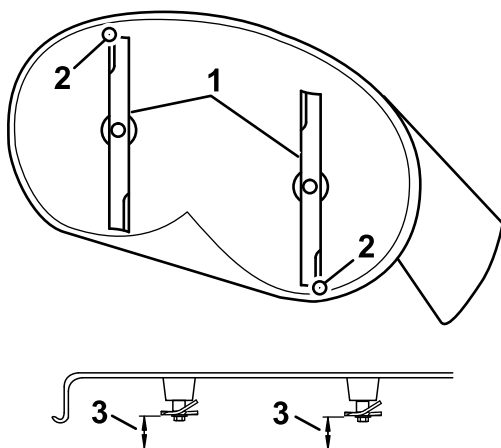

Figure 67
4. Carefully rotate the blades so they are facing front to rear (Figure 67).
5. Measure from the tip of the front blade to the flat surface and the tip of the rear blade to the flat surface (Figure 67).